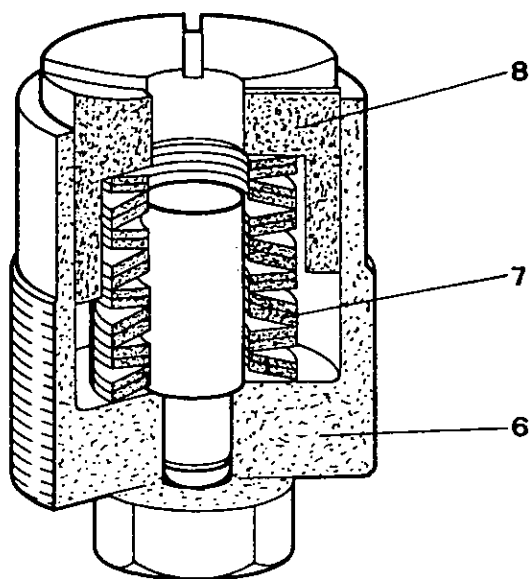

Fig. 8/4b
- 1) Slide cup springs 7 on bolt of bottom bearing threaded piece 6 as illustrated in fig. 8/4b.